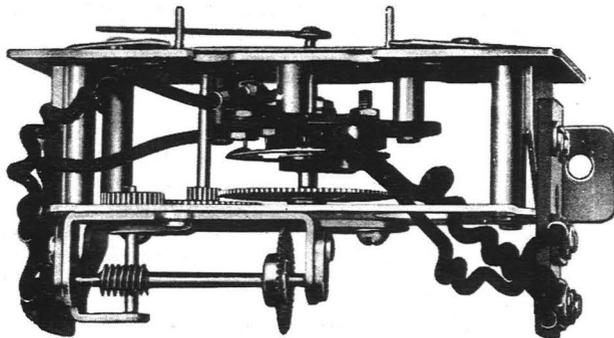
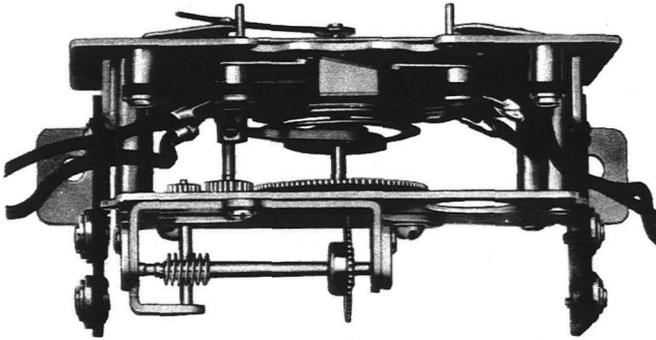

Fig. 5 - Gear Train With One Movable Contact
Fig. 6 - Gear Train With Two Movable Contacts
(1) As required, remove dirt from the contacts with the brush or a cleaning cloth and smooth them with the contact burnisher. If they do not make reliable contact adjust, as covered below.
(2) The movable contact on the type of contact mechanism shown in Fig. 5, and the movable alarm contact on the type shown in Fig. 6 may be adjusted for reliable operation by shaping the contact spring. No other adjustments are feasible and, if difficulties arise replace the entire gear train, including the contact mechanism with one of the type shown in Fig. 6 and having the same gear ratio.